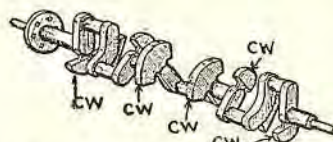

Fig. 51. Counterbalance weights applied to a six-cylinder crank shaft.
The counterbalanced crank shaft (Fig. 51), with counterweights (CW) electrically welded to the crank shaft and an integral part of the crank shaft, as illustrated, is becoming popular. It permits high speeds to be obtained without detrimental vibration, and relieves the tendency to "whipping" of the crank shaft and "slapping" of the pistons at high speeds.